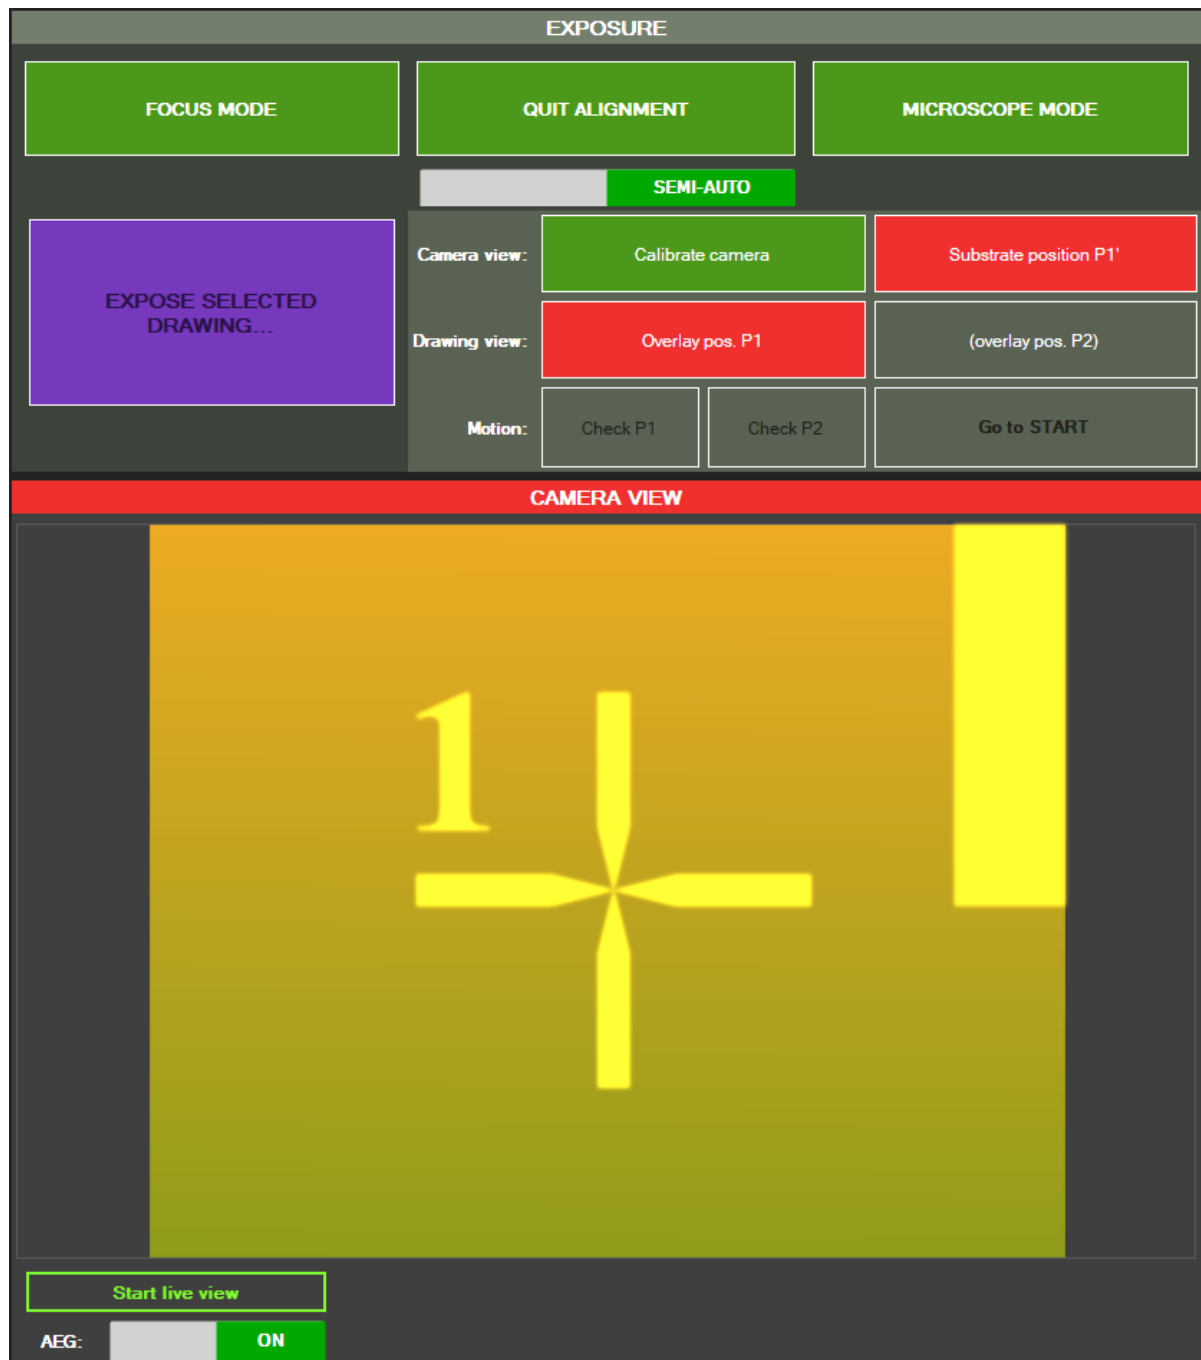

Figure 60 - Semi-auto alignment: defining point P1'
- Selection of point P1' (Figure 58b): click on the **Substrate position P1'** button. As for the previous step, the camera live view may start and the mouse cursor shape may change. Move the stage (see section 4.1.1) until the first patterned cross is visible (numbered "1" in this example), then click on its center (point P1') as shown in Figure 60.